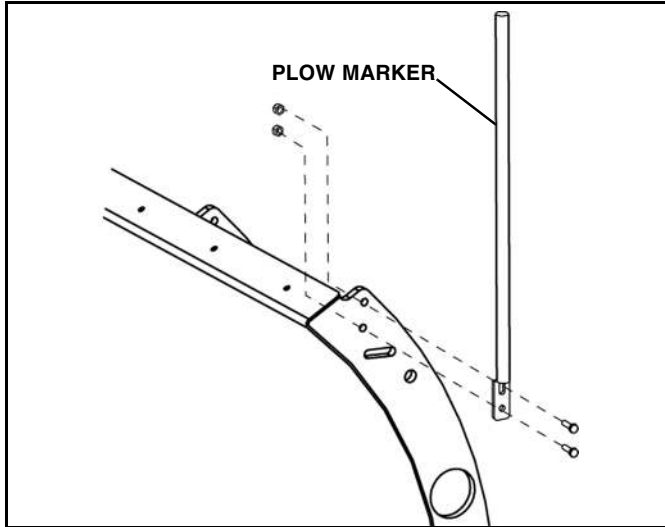

Figure 1-22
29. Attach a plow marker to each side of blade as shown and secure using 5/16 x1" cap screws and locknuts. (See Figure 1-22).